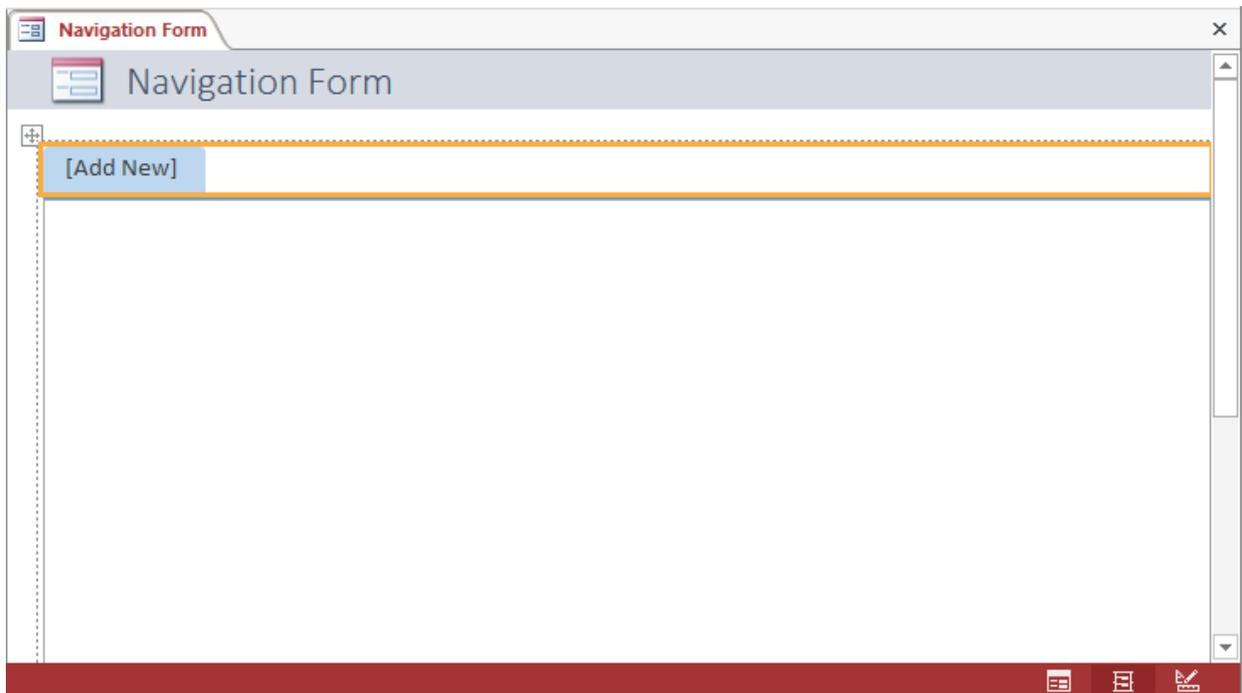

Figure 15: Empty Navigation Form in Layout View with Horizontal Tabs
2. Create a Horizontal Navigation Form: Select **Create** → **Navigation** → **Horizontal Tabs** to create an empty navigation form with horizontal tabs. Close the Field List window because it will not be used to demonstrate navigation form creation. Figure 15 shows the empty navigation form in layout view. The top part of a horizontal navigation form contains tabs and the bottom part contains the object pane. Each tab contains a separate object pane.